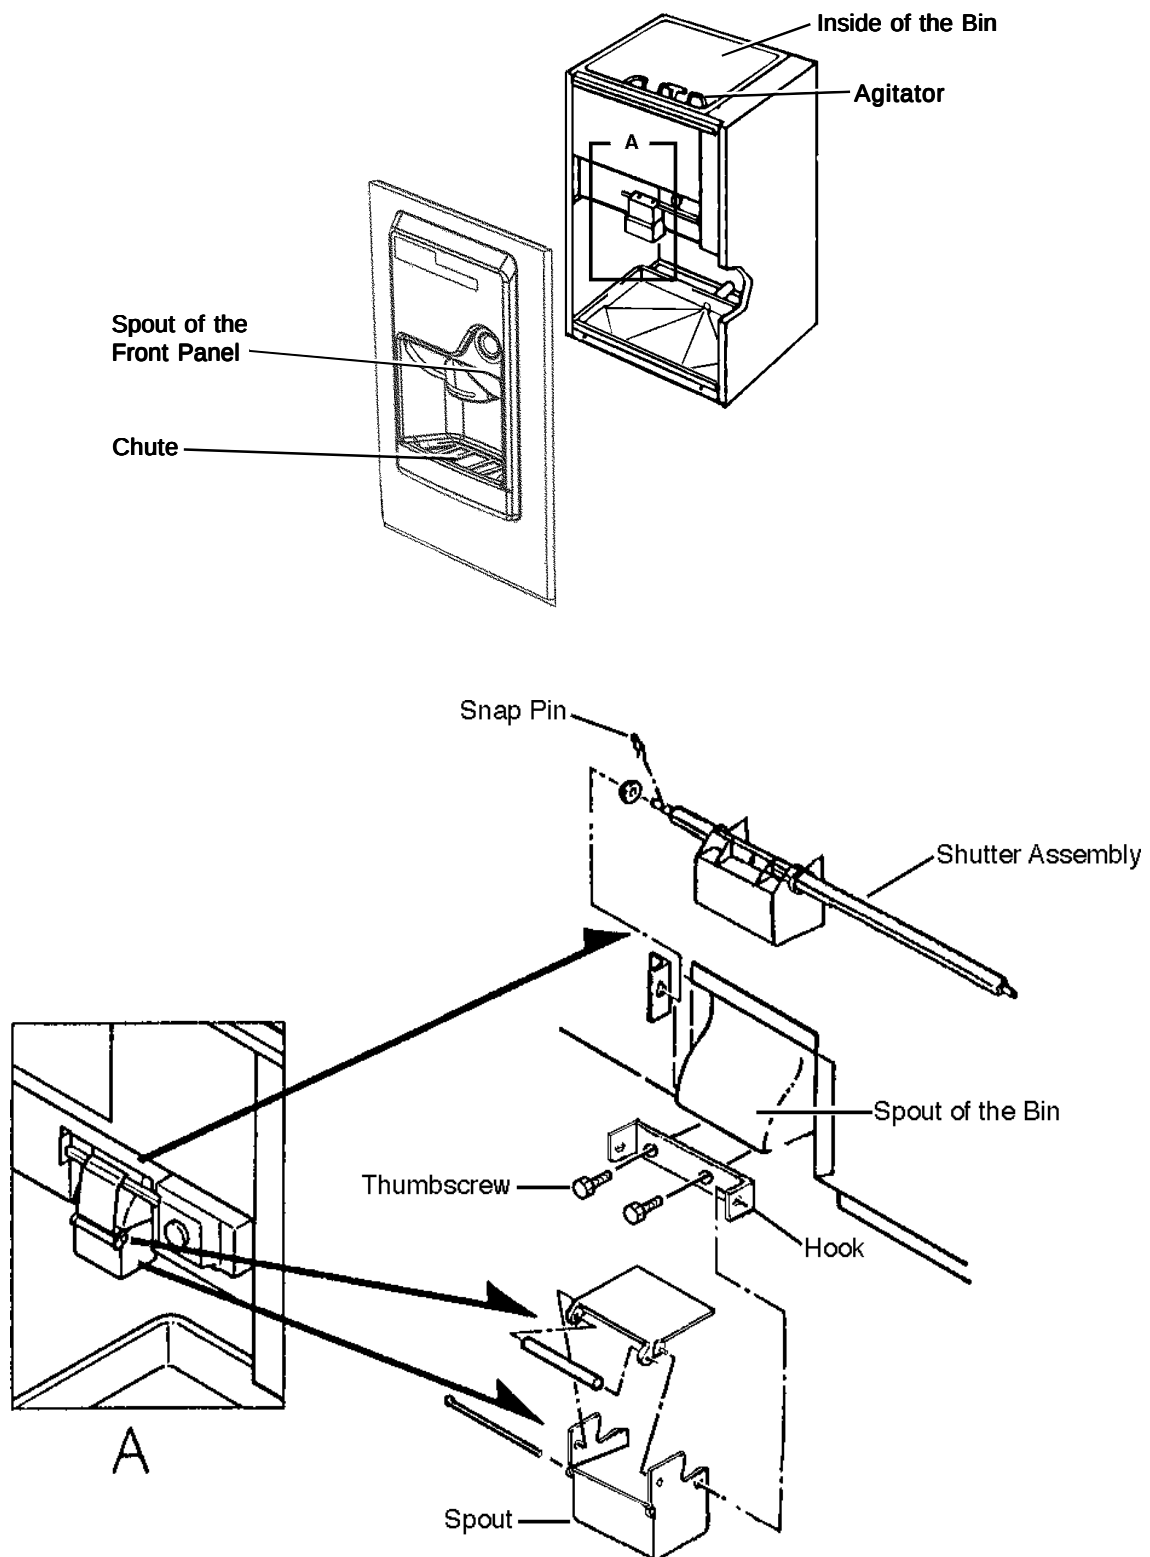

Fig. 5
7) Scrub the Shutter Assembly and Spout—after removing them—using the cleaning solution of item 6. See Fig. 5.